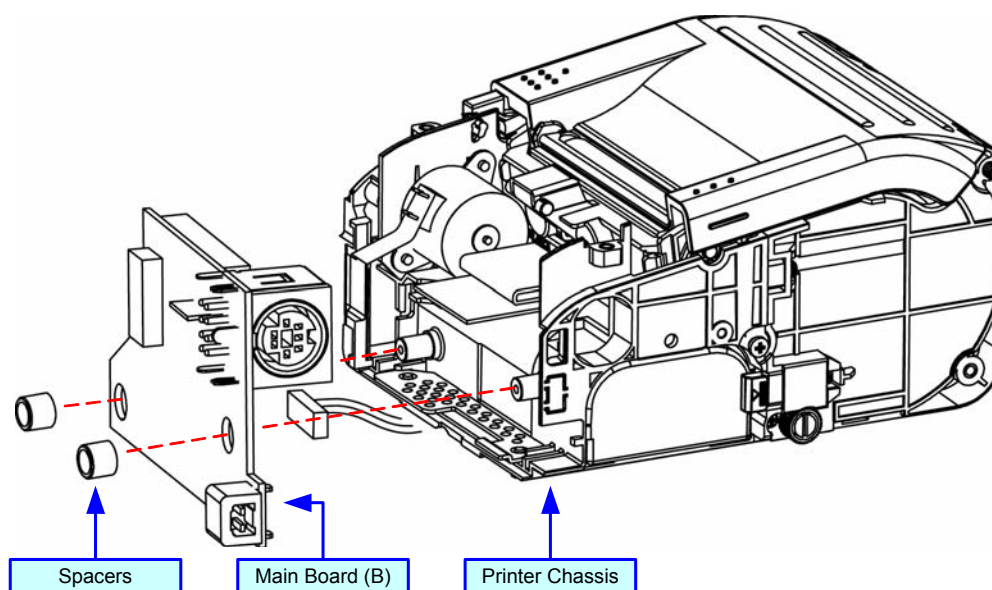

Figure 7-6, Main Circuit Board (B) Replacement
- 1 Perform steps 1 through 4 of the Main Circuit Board (A) Replacement procedure.
- 2 Withdraw the two spacers and defective main circuit board (B) from the printer chassis (Figure 7-6).
- 3 Connect all relative wiring harnesses to the replacement circuit board (B).
- 4 Install the replacement circuit board (B) onto the printer chassis followed by the two spacers.
- 5 Connect all relative wiring harnesses to main circuit board (A).
- 6 Apply main circuit board (A) to the assembly and secure using the two screws.